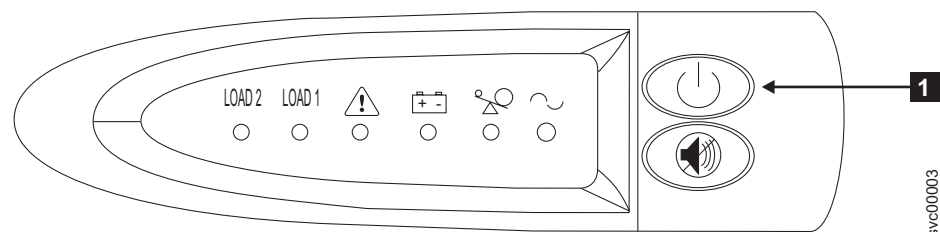

Figure 178. 2145 UPS-1U front panel assembly
1. At the front of the 2145 UPS-1U, press and hold the on/off button **1** until the power light is extinguished (approximately five seconds). See Figure 178. The 2145 UPS-1U enters standby mode.